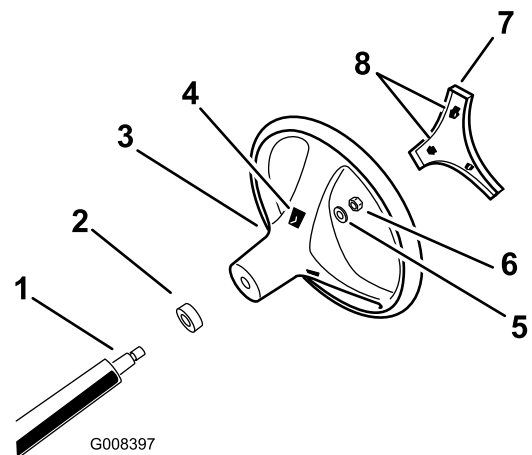

Figure 3
4. Secure the steering wheel to the shaft with the locknut and torque the locknut to 24 to 29 N·m (18 to 22 ft·lb) as shown in Figure 3.
5. Align the tabs of the cover with the slots in the steering wheel and snap the cover onto the steering wheel hub (Figure 3).